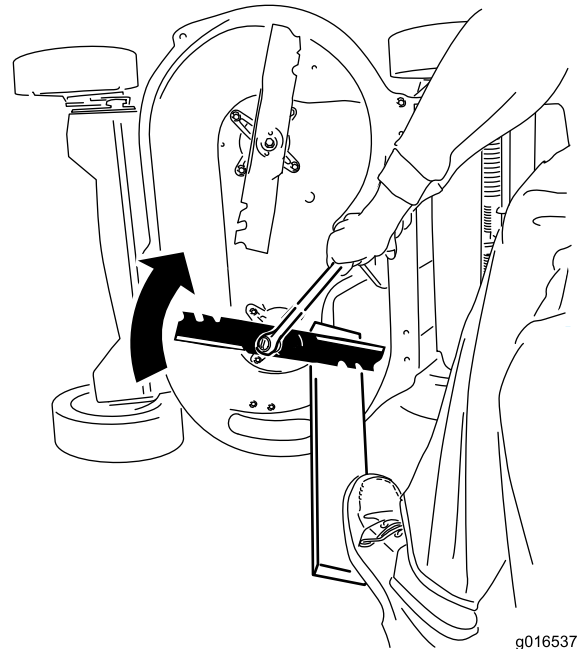

Figure 46
2. Steady each blade with a board and turn the blade bolt clockwise with a torque wrench as shown in Figure 46; torque the blade bolt to 82 N-m (60 ft-lb).